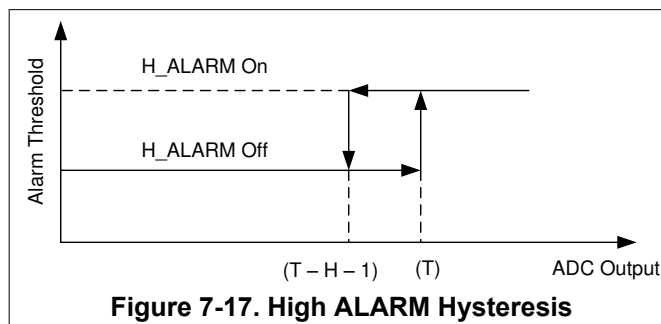

Figure 7-17. High ALARM Hysteresis
The device sets the input high alarm when the digital output exceeds the high alarm upper limit [high alarm threshold (T)]. The alarm resets when the digital output is less than or equal to the high alarm lower limit [high alarm (T) – H – 1]. This function is shown in Figure 7-17.